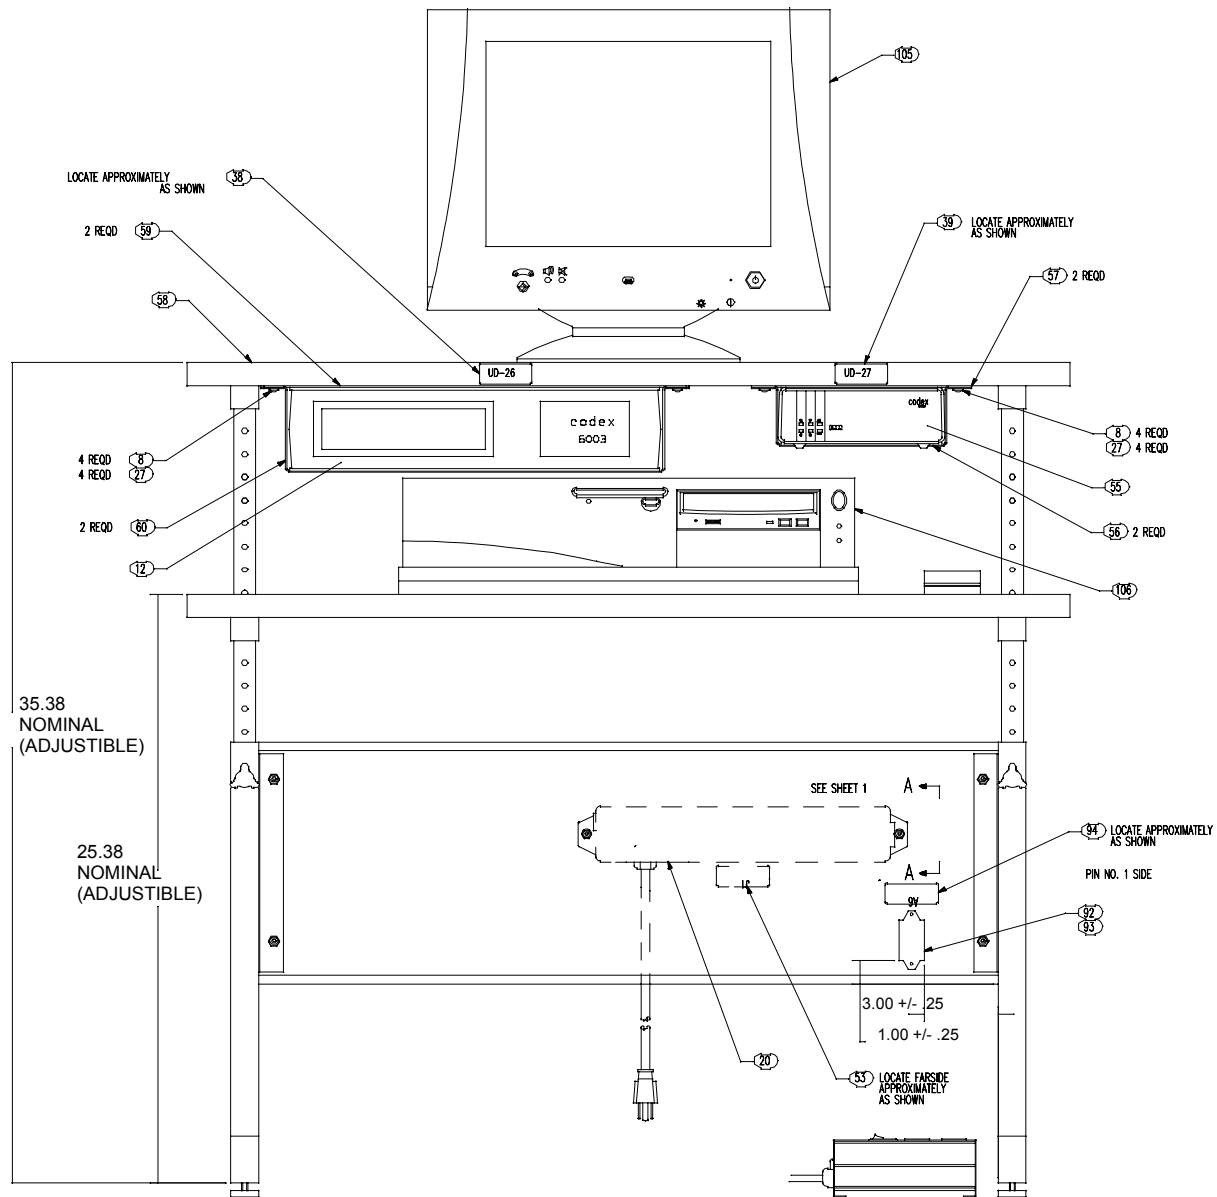
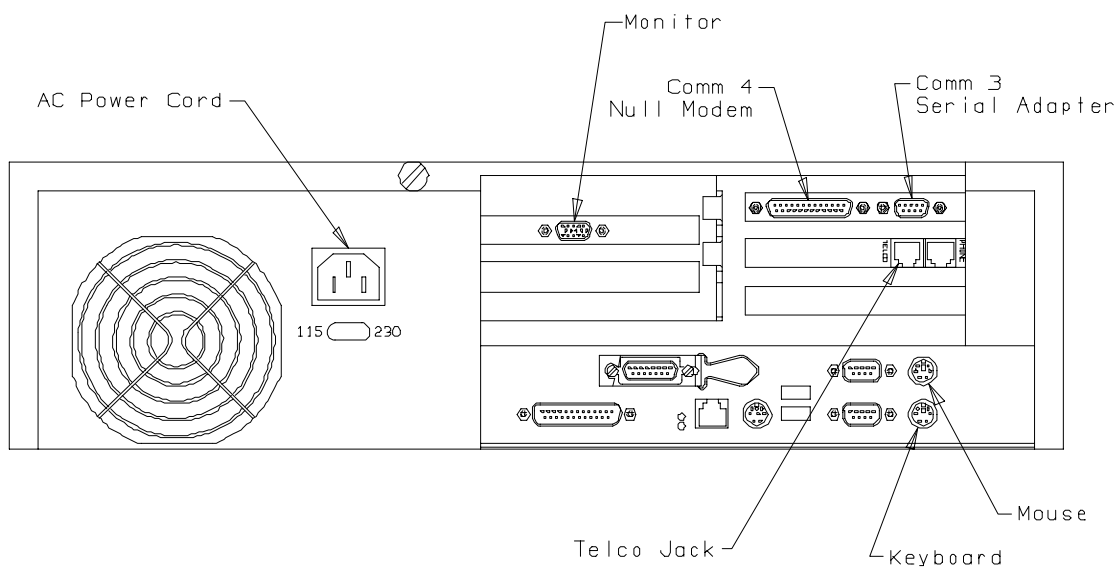

Figure 9 Yongsan AB Configuration
Figure 11 CPU Connection Points
- (1) Assembly the UCP table by performing the following steps (See Figure 9):
- (a) Position the Central Processing Unit (CPU)(item 106) on the UCP stand desk area. (See Figure 9)
- (e) Position the surge suppressor (Isotel4, UD34E1) on the floor behind the UCP stand (item 109).
- (f) Connect the 9 pin side of the 9-25 pin serial adapter (part no. 2200025-201)(item 110) to the installed communications card of the CPU. Connect the "P2" end of cable assembly (W900, item 116) to the 25 pin connector of the 9-25 pin serial adapter. Connect the "P1" end of cable assembly W900 to the CH2 port of the Statmux (UD26, item 12). (See Figure 9 and Figure 13.)
- (g) Connect the female end of the Null Modem adaptor (part no. 2200021-201)(item 111) to the installed communications card of the CPU. Connect the P2 end of cable assembly W901 (item 117) to the other end of the Null Modem. Connect the P1 end of cable assembly W901 (item 117) to the CH1 port of the Statmux (item 12).
- (h) Connect the end of the new 10 foot telephone cord (part no. 2320002-304)(item 120) 34W902 labeled P2(E1) to the CPU modem TELCO jack and the other end to the surge suppressor (Isotel4) OUT jack (cable end labeled 1CP1).
- (i) Connect the CPU monitor video cable to the CPU monitor jack. (See Figure 11)
- (j) Connect the mouse to the CPU mouse jack. (Green upper port)(See Figure 11)